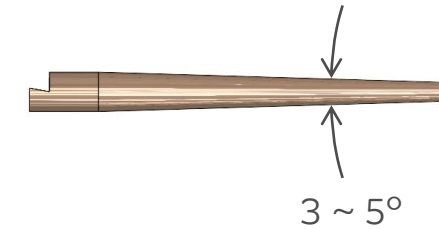

Fig. 2-1: Sprue draft angle
- The recommended draft taper angle is $3 \sim 5^\circ$ (Fig. 2-1).